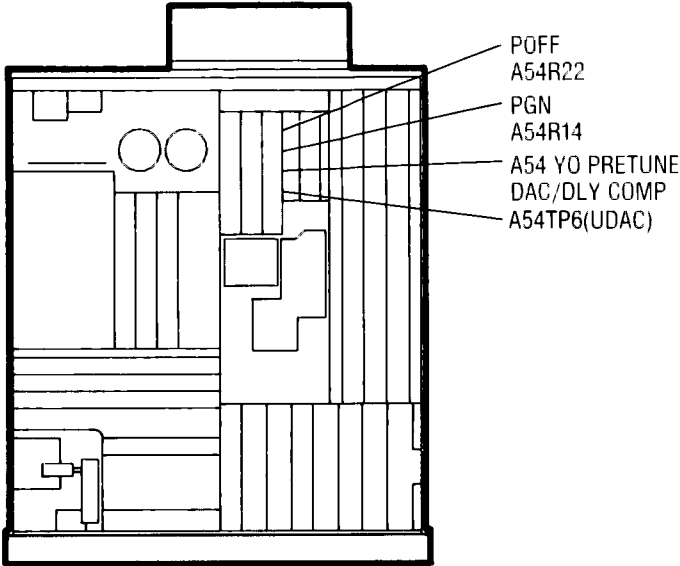

Figure 5-14. YO Pretune DAC Gain Adjustments Location
3. Connect the DVM to A54TP6 (VDAC) and adjust A54R22 (POFF, Figure 5-14) for -5.75 ± 0.001 Vdc.
5. Adjust A54R14 (PGN, Figure 5-14) for -17.5 ± 0.001 Vdc